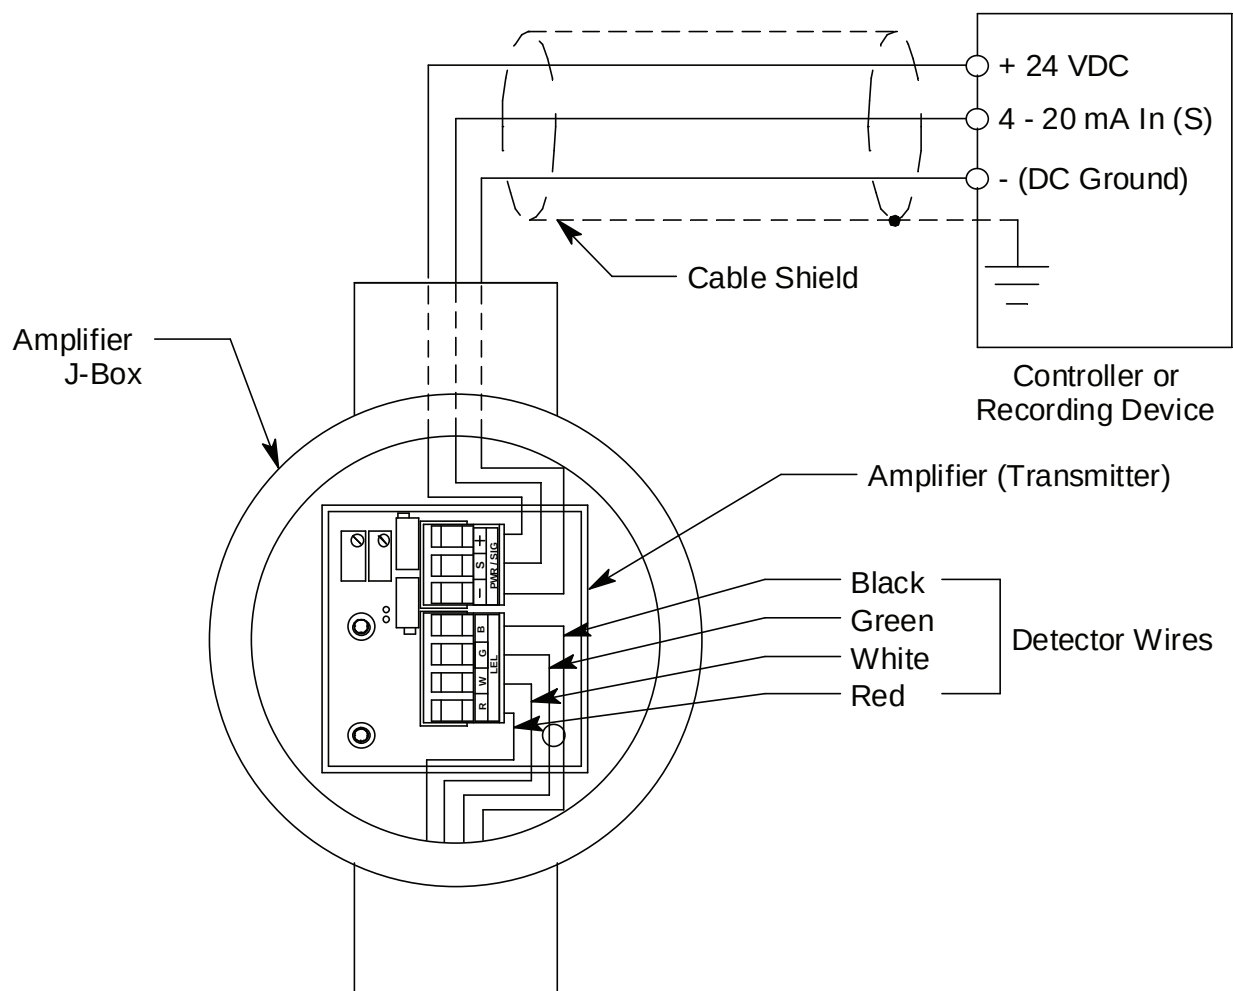

Figure 4: Wiring the Amplifier to a Controller
5. Pull out the controller terminal strip, and connect the three wires to the terminal strip as follows (see Figure 4).
9. Connect the wires to the applicable detector / transmitter terminal strip at the controller as shown in Figure 4.